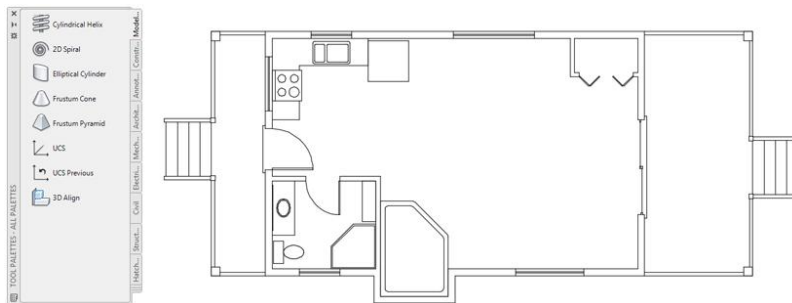

FIGURE 7.59: The tool palettes displayed on the screen
3. If palettes aren't already visible in the drawing area, click the Tool Palettes button, found on the View tab > Palettes panel (see Figure 7.59).
Your palettes might appear different from those shown in a couple of ways. The ones shown in this section are positioned on the right side but aren't docked there. Yours might be transparent, showing your drawing beneath them, or your palettes might be hidden and show only the title bar. In Figure 7.59, several tabs are on the right side of the palette area, indicating the available palettes. On its left side is the palette title bar with control icons at the top and bottom.